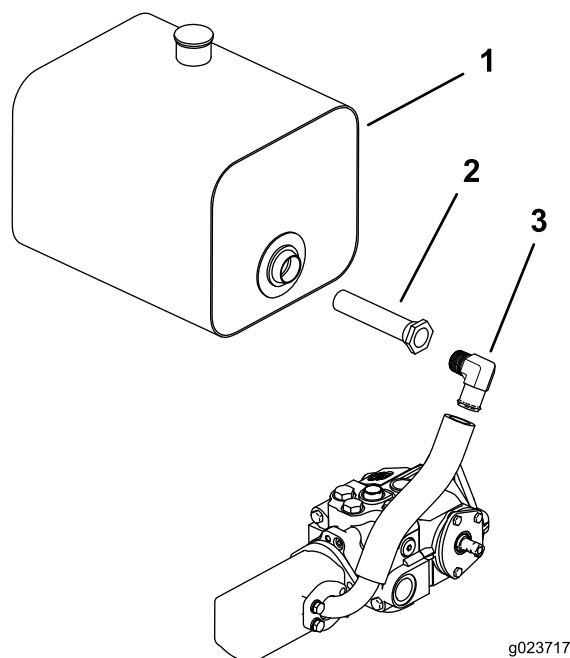

Figure 43
8. Disconnect the hose from the elbow and remove the elbow (Figure 43).